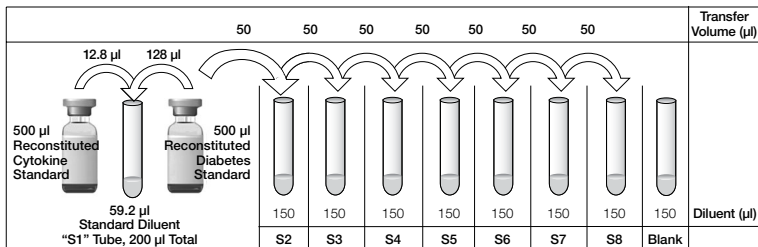

Fig. 4. S1 mixture and fourfold dilution series of diabetes and cytokine standards for detection at high PMT. Produces a narrow range cytokine standard curve.
Two mixing scenarios are provided in Figures 4 and 5 for detection at high and low PMT respectively. One results in a narrow range cytokine standard curve for detection at high RP1 (PMT); the other gives a broad range cytokine standard curve for detection at low RP1 (PMT).
2. **For high PMT/narrow range** cytokine standard curve, add **59.2 μ l** of standard diluent to the S1 tube. **For low PMT/broad range** cytokine standard curve, add **72 μ l** of diluent to S1 (Figures 4 and 5).
3. **For high PMT/narrow range** cytokine standard curve, add **12.8 μ l** of the reconstituted cytokine standard and **128 μ l** of the reconstituted diabetes standard to the S1 tube for a total volume of 200 μ l (Figure 4). **Vortex** for **5 sec**.
- Add **150 μl** of standard diluent to the remaining tubes, as shown in Figure 4.